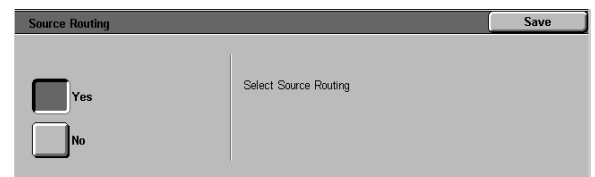

Figure 44: Source Routing screen
- On the Source Routing screen (Figure 44), touch **Yes** or **No** to indicate if source routing is taking place.